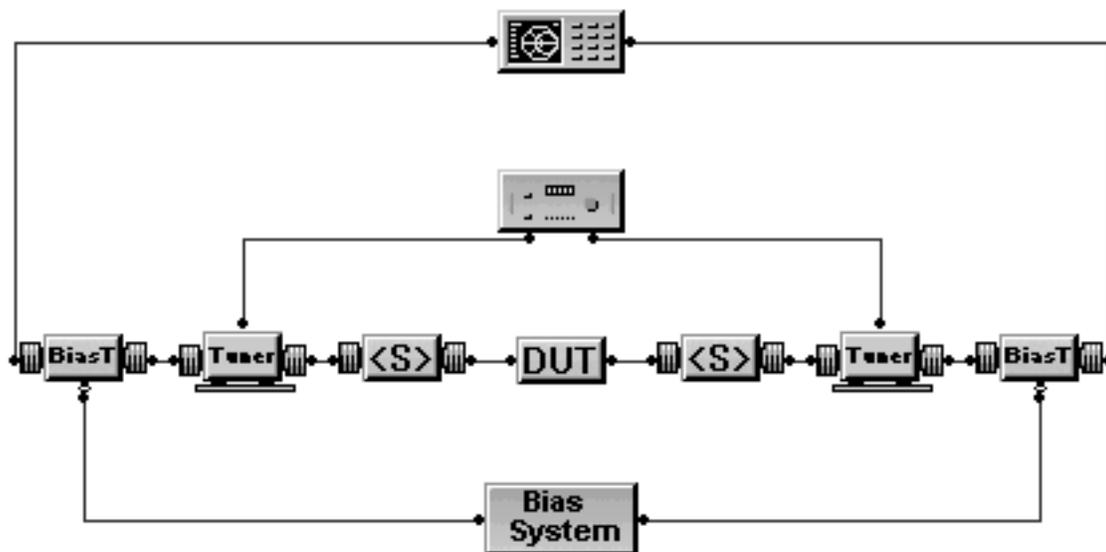

Figure 2-1. Typical Setup for Performing S-Parameter Measurements
2.1.2 The five types of RF measurements (s-parameters, noise, power, intermod and ACP) can be made from within the same program if all of the options are installed. However, they require separate setups as shown in Figures 2-1, 2-2, 2-3, 2-4 and 2-5. A basic power setup with harmonic load/source pull is shown in Figure 2-6.